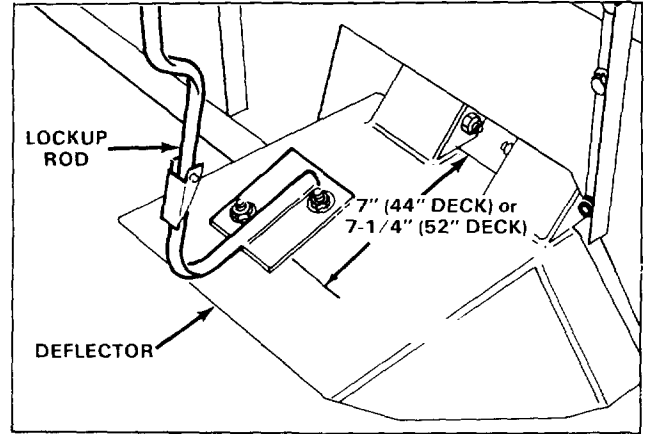

Figure 6
3. (Step #3 pertains only to cutting deck carrier frames with serial numbers prior to 70001.) Using each mounting beam as a template, locate and drill (4) 1/2" dia. holes in carrier frame.
4. On 44" bagging kits, push threaded insert (included in kit) into rear holes drilled in carrier frame. Secure rear beam to carrier frame and insert with (2) 3/8-16 x 2-1/2" lg. capscrews and (2) flatwashers. Washers to be positioned on top of beam. Tighten capscrew until insert expands in carrier frame hole. Secure front beam to carrier frame with (2) 3/8-16 x 2-1/2" lg. capscrews, (4) flatwashers, and (2) locknuts. Washers to be positioned on top of beam and under carrier frame.
5. On 52" bagging kits, secure front beam to carrier frame with (2) 3/8-16 x 2-1/2" lg. capscrews, (4) flatwashers and (4) flangenuts. Secure rear beam to carrier frame with (2) 3/8-16 x 4-1/2" lg. capscrews, (4) flatwashers and (4) locknuts. Washers to be positioned on top of beam and under carrier frame.
6. Measure 7" (on 44" deck) or 7-1/4" (on 52" deck) from edge of deflector and draw a parallel line (Fig. 6).
7. Using lockup rod as a template (Fig. 6), mark and drill (2) 11/32" dia. holes in deflector. Secure lockup